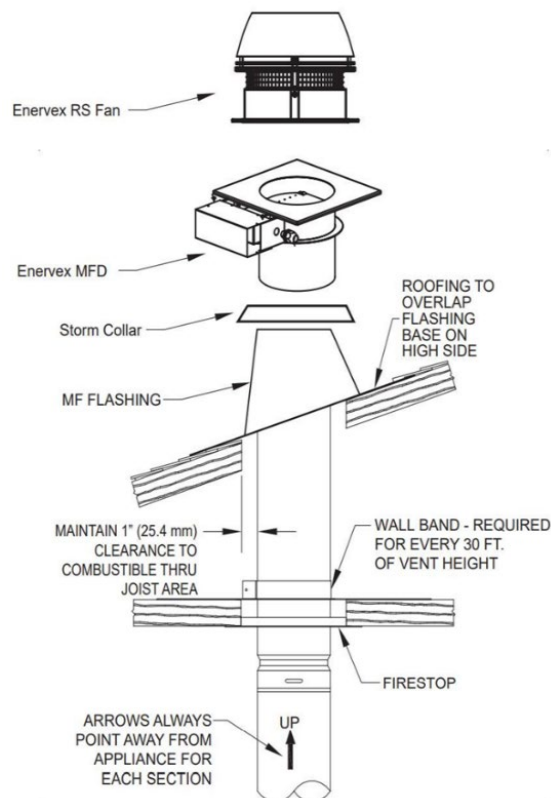

FIGURE 23
- 8) Where the B-Vent installation penetrates the roof, begin by cutting a hole that is 2 inches larger than the outside diameter (OD) of the B-vent pipe's outer casing. The B-Vent pipe is to be centered in this opening. Above the roof, a flashing is required to maintain the one-inch (25.4 mm) clearance to the combustibles of the roof. Installation of a storm collar allows water to drain over the flashing (**Figure 23**).